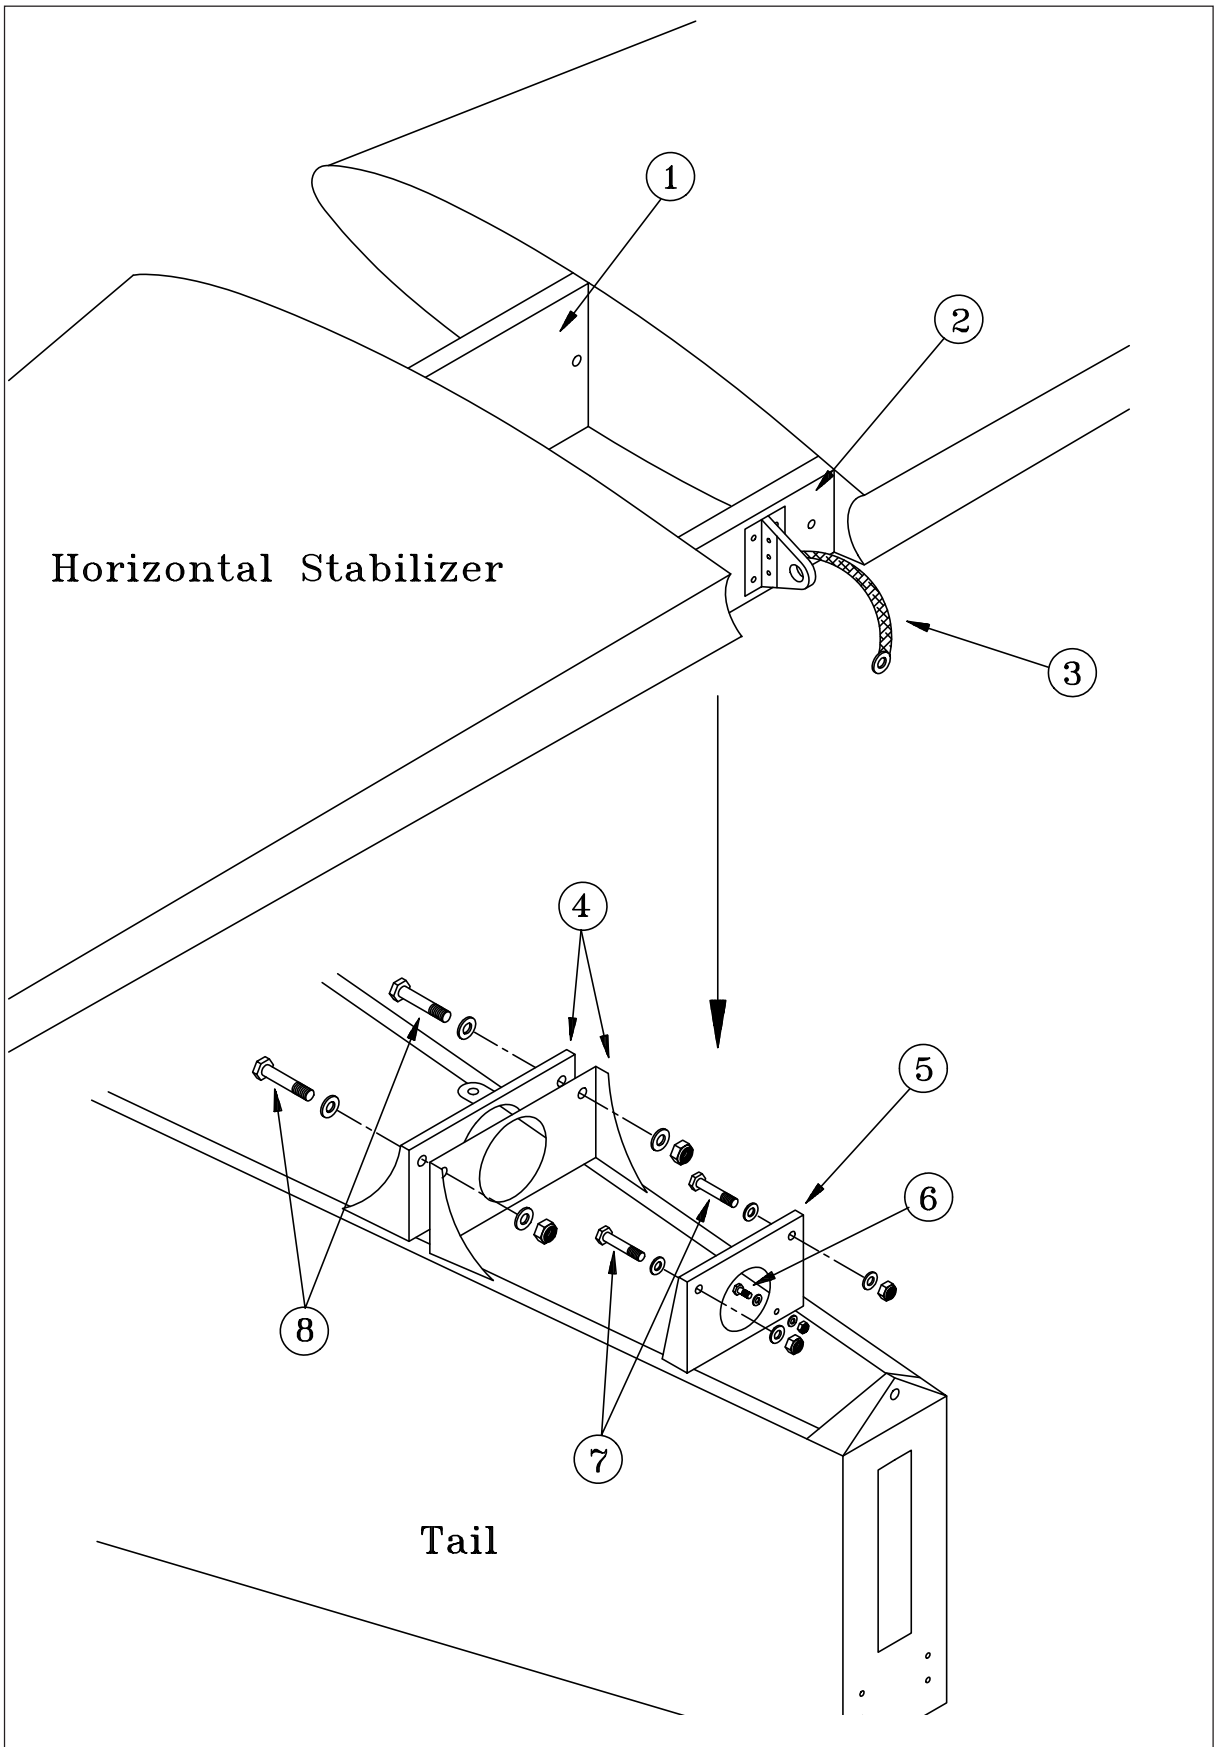

Figure 1
The layer sequences of the horizontal and vertical tail are shown in figures 1, 3 and 4.
- 1 Slide the horizontal stabilizer with its front spar (1, figure 1) into the attach brackets (4) on fuselage. The rear spar (2) is positioned behind the rear attachment bracket (5) (trim tab is on the right side).
- 2 Slide in the front spar attachment bolts (8) with an additional washer under the bolt head from the front to the rear. These bolts are also used for the vertical stabilizer attachment. Therefore do not apply stop nuts before the vertical stabilizer is fitted to the fuselage.
- 3 Slide in the rear spar attachment bolts (7) from front to rear. Torque nuts for fastening.
- 4 Fasten the ground bonding lead (3) by means of the bolt (6), the washers and the stop nuts.